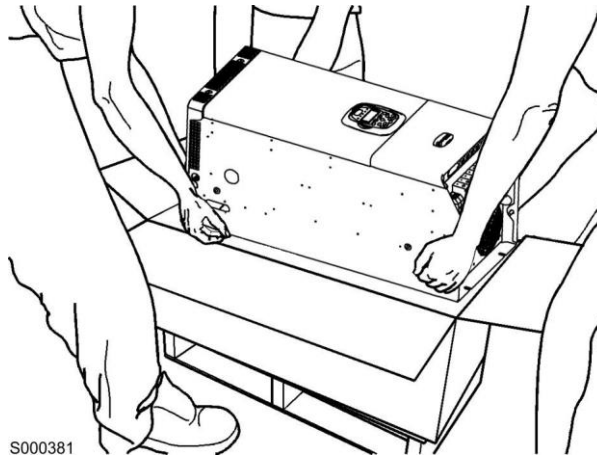

Figure 8: The Sinus Penta is unpacked
3. Remove the Sinus Penta from its packing by lifting it from its sides. To avoid damaging the packing, lift the product keeping it horizontal to the floor (see Figure 8).